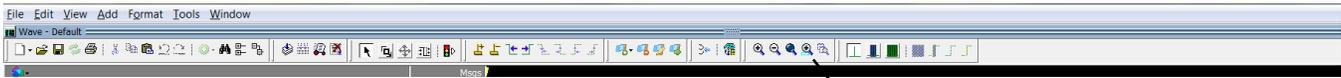
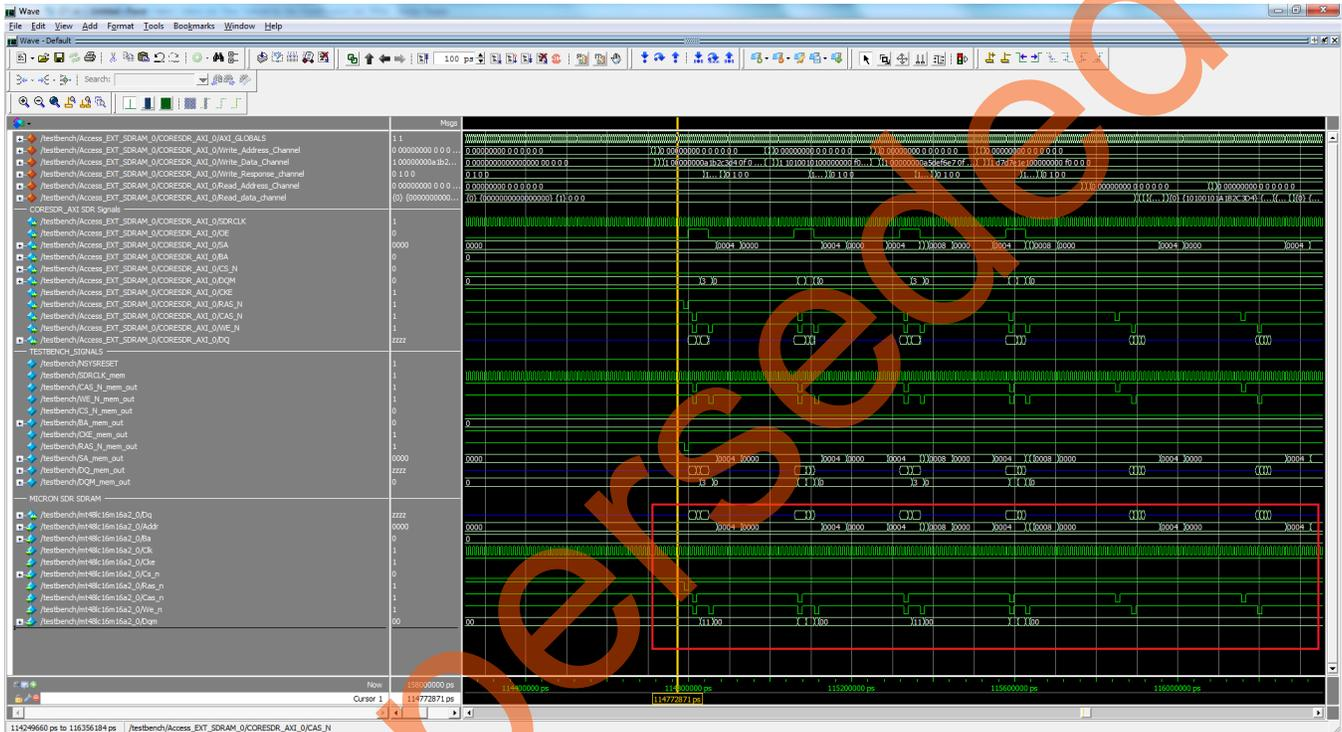

Figure 39. Zoom In on the Active Cursor
Figure 40. Write/Read Transactions
- Place the cursor at 114 us on the **Wave** window and click the **Zoom In on the Active Cursor** button to zoom in at that location, as shown in Figure 39. Click as needed until complete write and read transactions to the external SDR SDRAM is seen on the **Wave** window, as shown in Figure 40.